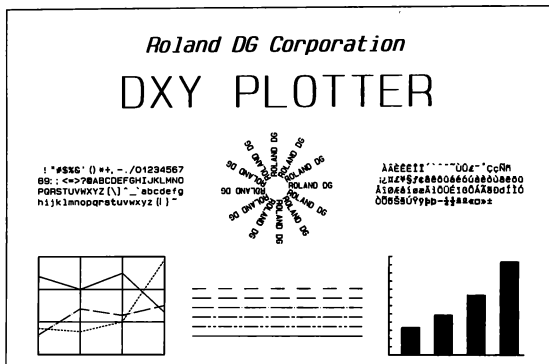

Fig. 2-15
6) The plotter starts to operate to draw as shown in the Fig. 2-15.